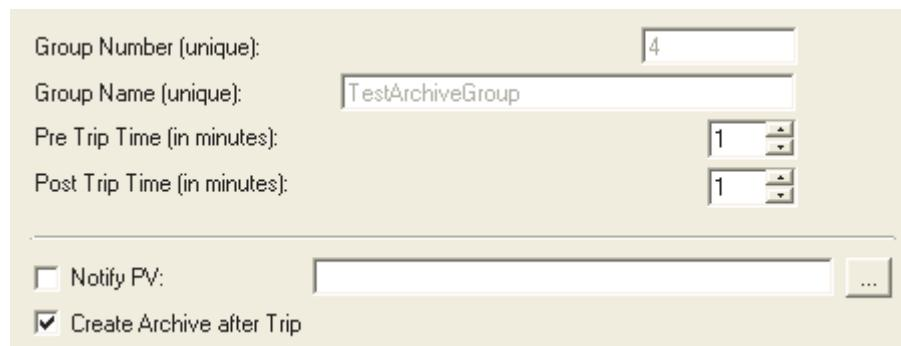

Figure 3-14. Configuring a Group's General Properties
5. Select the group on the tree and configure the following parameters that appear in the group's general configuration window, shown in Figure 3-14: